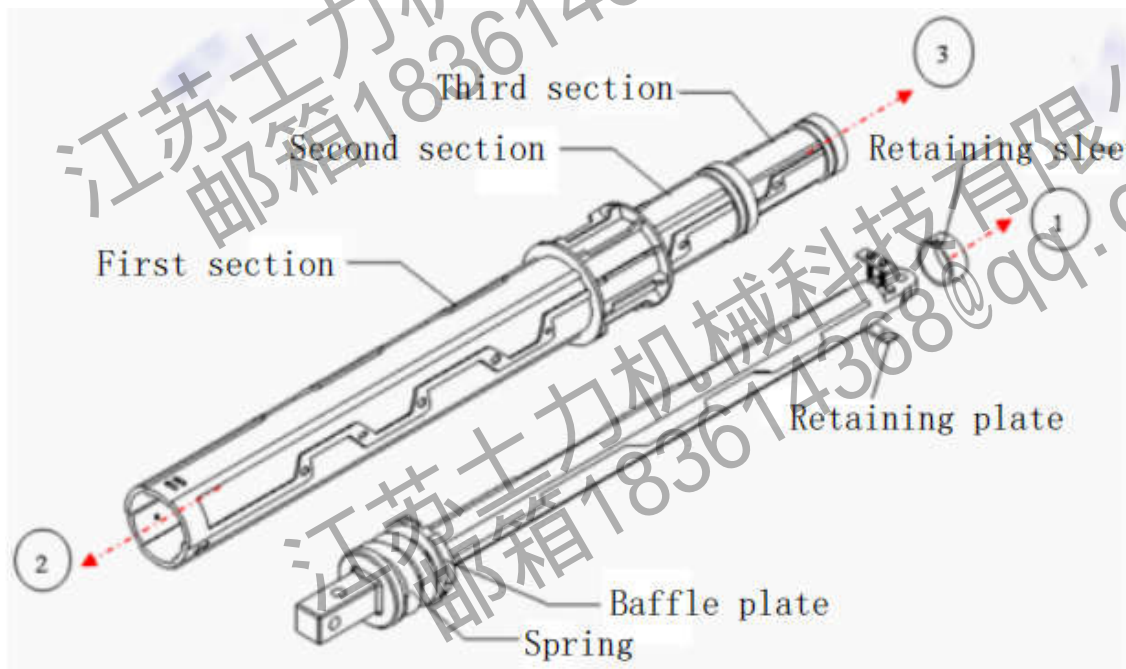

Figure 2-2 Schematic diagram of the disassembly and assembly
4) Pull the innermost drill pipe (the fourth drill pipe) out along the bottom of the drill pipe in the direction (2) shown in Figure 2-2.
5) Pull out the third drill pipe in the direction shown by No. 3 in Figure 2-2 above the drill pipe.
6) Then pull the second drill pipe out along the top of the drill pipe in the direction (3) shown in Figure 2-2. The dismantling is complete.
1) Load the second drill pipe from the top of the first drill pipe in the opposite direction as shown by No. 3 in Figure 2-2. When inserting the first flower tube in the second segment, align the outer teeth of the second segment with the inner alveoli of the first segment.
2) Load the third drill pipe from the top of the second drill pipe in the opposite direction as shown by No. 3 in Figure 2-2.
3) Then load the fourth drill pipe under the third drill pipe in the opposite direction as shown by No. (2) in Figure 2-2. Do not forget the spring and the water discharger.
4) Install the notch ring, baffle, and bolt as shown by No. 1 in Figure 2-2. Note the orientation of the baffle and the reverse front (marked).